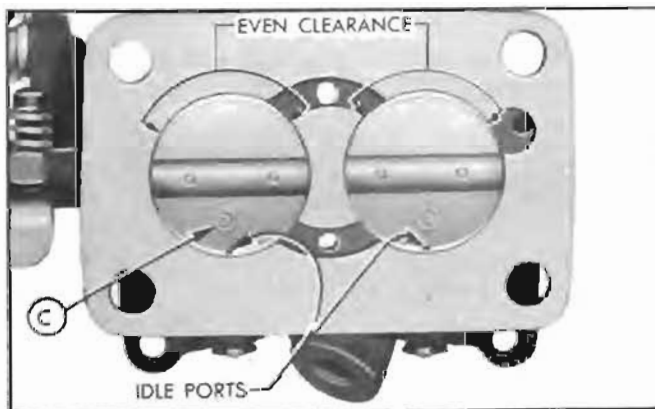

Figure 3-39—Installation of Throttle Valves
4. Install both throttle valves on shaft, using *new screws*. The small "c" in circle on valves must be toward idle ports and toward lower or manifold side of body flange. See figure 3-39. Back off throttle lever adjustment screw, fully close and center both valves in barrels of body flange, then hold valves firmly while tightening screws.